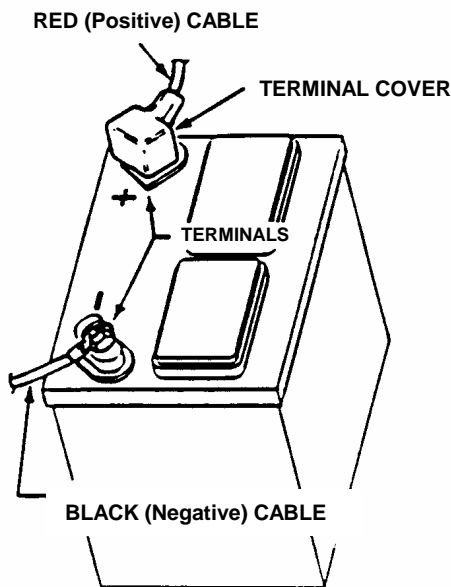

FIGURE 4.8
3. Observe and note cable positions on battery. See Figure 4.8.